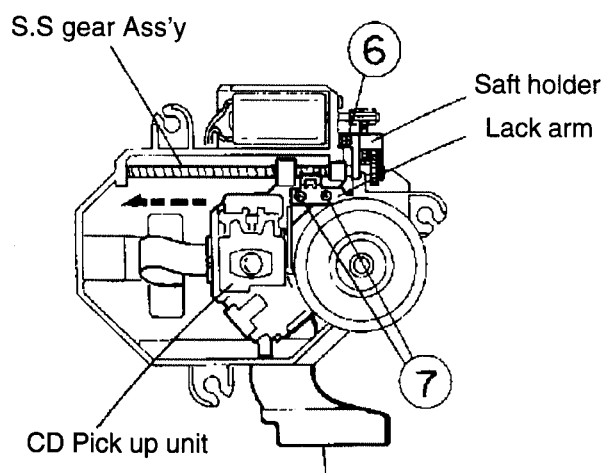

Fig.14
4. Shift the CD pickup unit in the arrow F direction (See Fig.14).
5. Remove the one screw ⑥ retaining the shaft holder(See Fig.14).
6. After removing the two screws ⑦ retaining the rack arm, take out the S.S. gear assembly(See Fig.14).